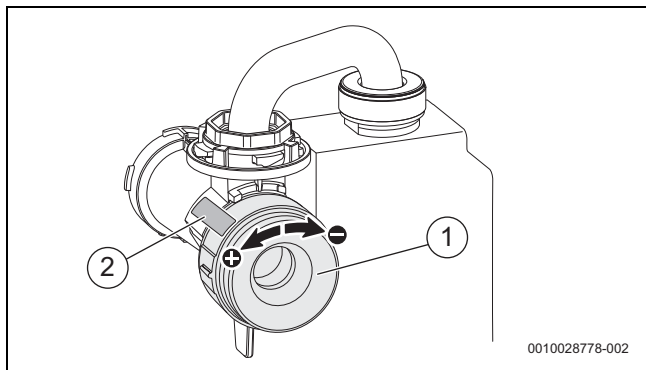

Fig. 95 Setting the adjustable venturi - CO₂/O₂ content
- ▶ Security Seal [2] (→ Fig. 95) must be removed before adjusting the Max CO₂/O₂ setting. Once adjustment has been made the seal must be replaced with part number 8 737 708 988.
Refer to figure 95.